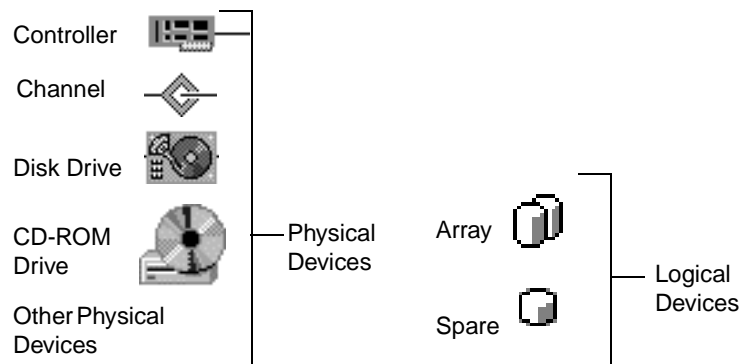

Figure 6-1. Storage Configuration Window Icons
- 3 Right-click the icon that represents the device for which you want to view information and select **Information** from the drop-down menu. Refer to Figure 6-1.